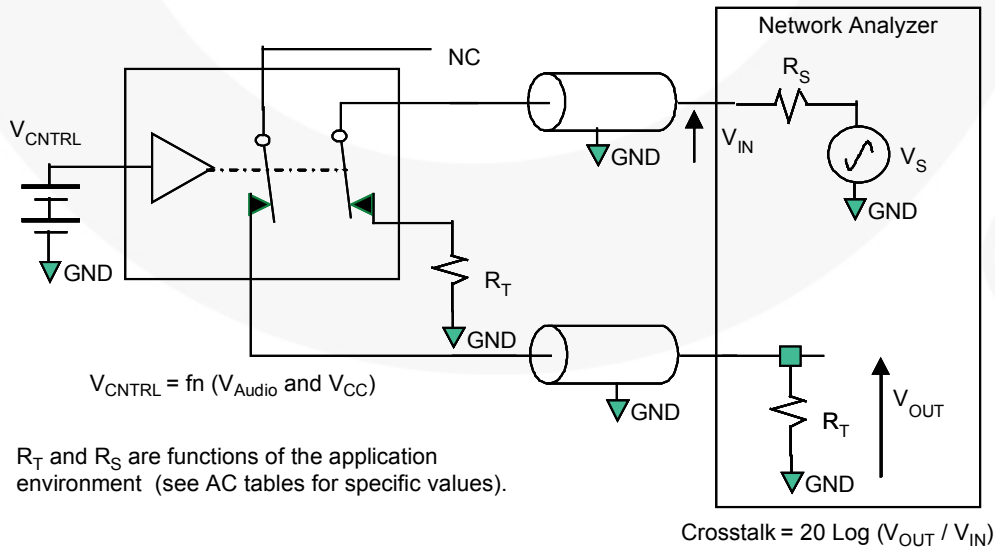

Figure 22. Non-Adjacent Channel-to-Channel Crosstalk
| Xtalk A     | Non-Adjacent Channel Crosstalk - Audio       | 3.0 to 4.3 (10) | f=20 kHz; R T =32 Ω; C L =0 pFFigure 22                                   |                                 | -110 |      | dB   |